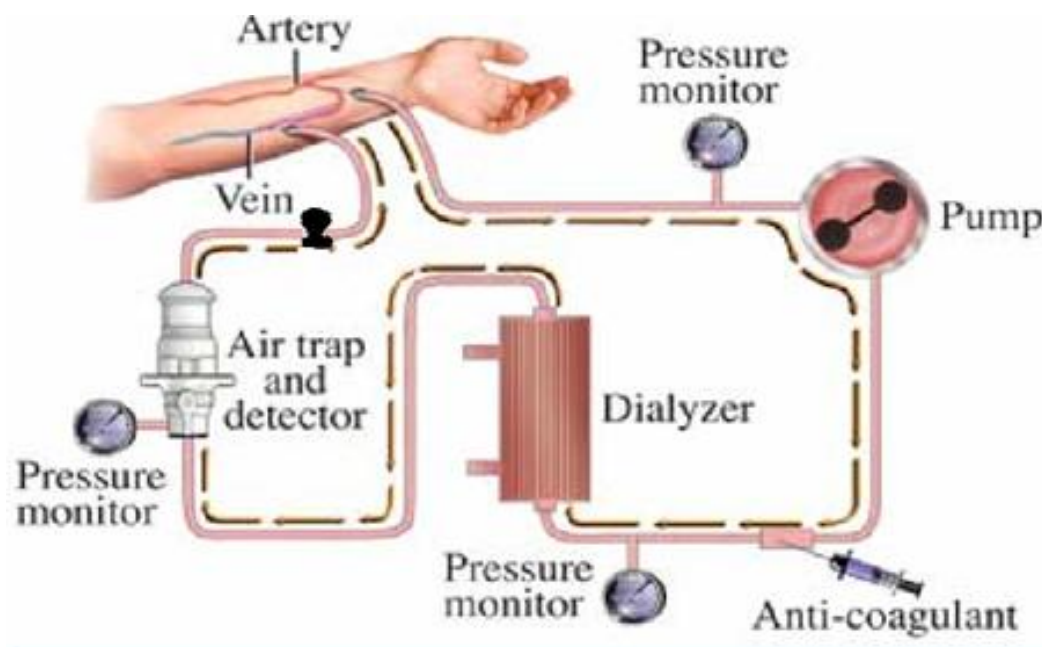

Figure 9. The Blood circulation subsystem
- The pumping is done by squeezing the plastic tube inside the pump using a pair of spring loaded rollers as in figure 9.